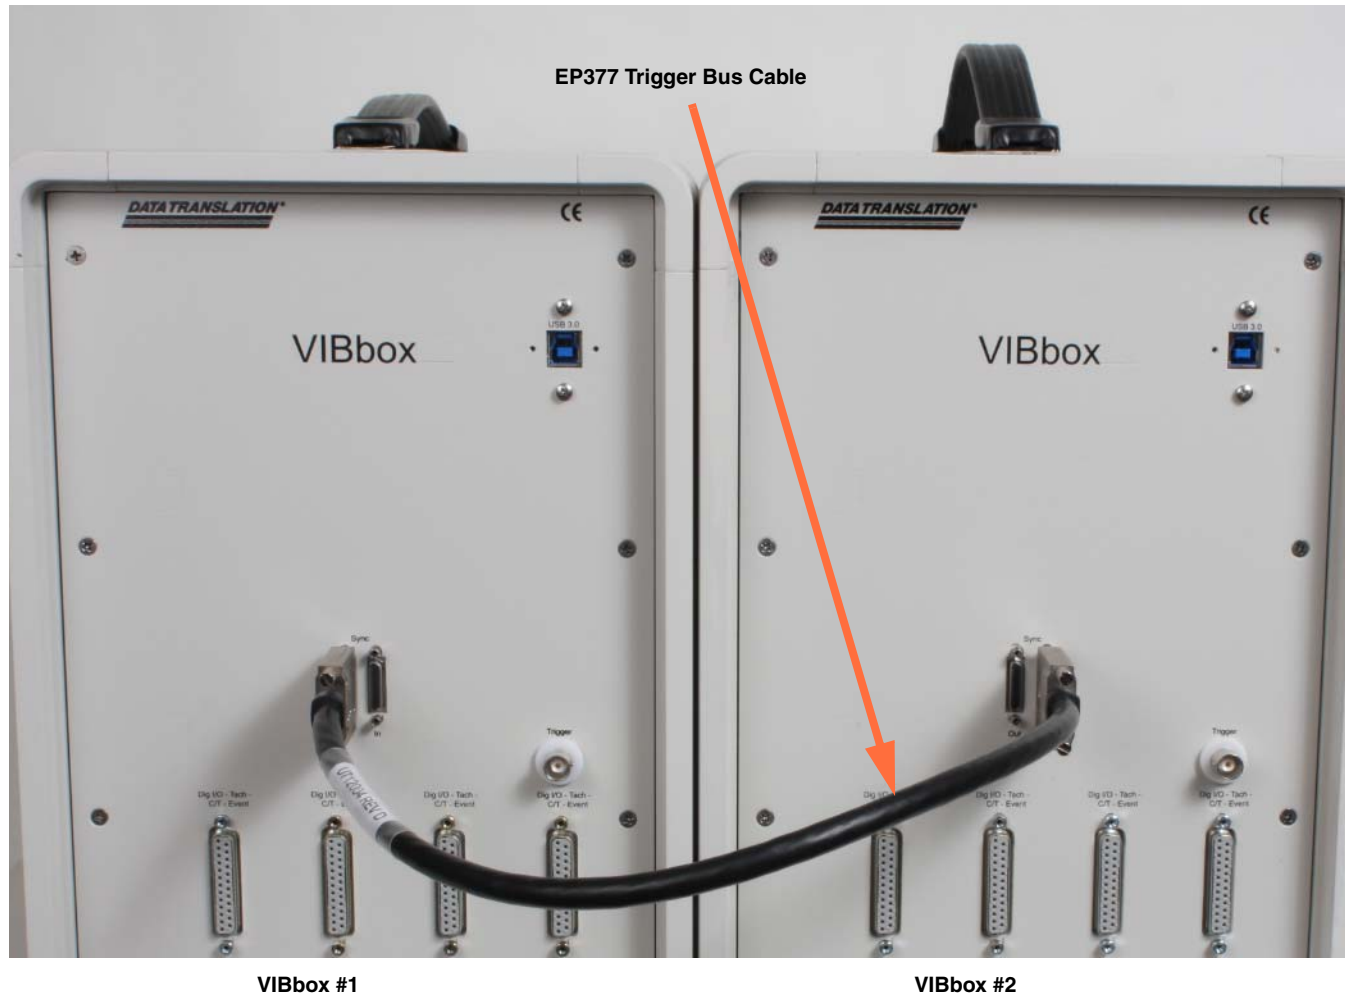

Figure 50: Connect Multiple VIBboxes Together Using the Sync Bus Connectors and EP377 Cables
1. If using two VIBboxes, connect an EP377 cable to the **Sync Bus Out** connector on VIBbox #1 to the **Sync Bus In** connector, of VIBbox #2, as shown in Figure 50.